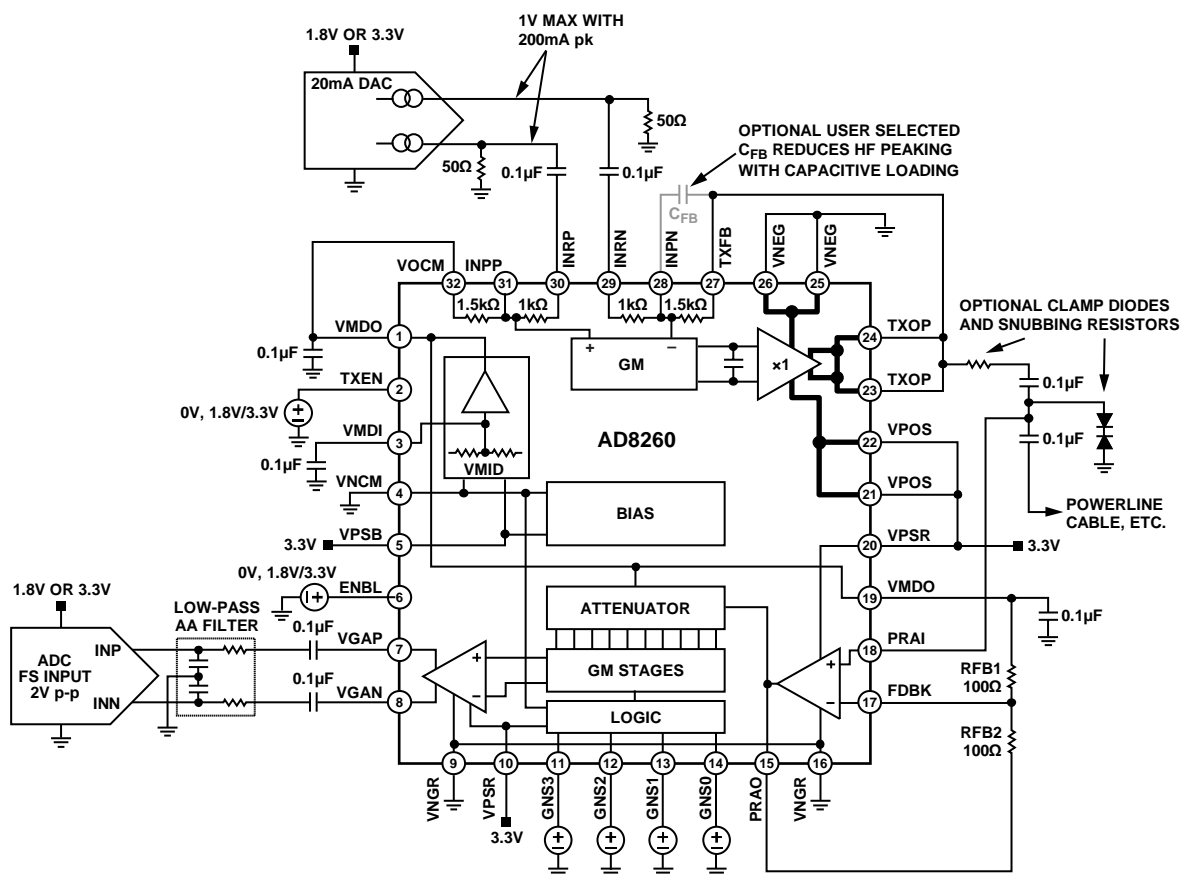

Figure 64. Block Diagram and Basic Application Connections
The AD8260 is a self-contained transceiver intended for analog communications using a power line as the media. Operating on supplies as low as 3.3 V, it includes a high current driver usable as a transmitter and a low noise digitally programmable variable gain amplifier (DGA), usable as a receiver (see Figure 64). An uncommitted current-feedback high frequency op amp acts as a preamplifier and interface to the DGA and is user configured for gains greater than 6 dB. Combined, the VGA and preamplifier are usable at high signal levels from dc to 100 MHz, with a small-signal  $-3$  dB bandwidth of 230 MHz. To implement a high current-output VGA, the VGA output can be connected to the driver-amplifier differential input.
4-bit parallel interface. Figure 64 shows the circuit block diagram and basic application connections, and illustrates the envisioned external DAC, ADC, and power-line bus interface connections. The diagram shows the connections for single 3.3 V supply operation; if a dual supply is available, the VMID generator can be shut down and Pin VMDI, Pin VMDO, and Pin VOVM need to be grounded. Note that Pin VNOCM functions as the negative supply for the bias and VMID cells, plus the logic interfaces, and should always be tied to ground.
For optimal dynamic range, it is important that the inputs and outputs to both the driver amplifier and the preamplifier and the DGA output amplifier be ac-coupled in a single-supply application. In Figure 64, the DAC and ADC are presumed to operate on a 1.8 V or 3.3 V supply with a corresponding limited output and input swing. The DAC outputs are currents that point down and generate a voltage in the  $50\ \Omega$  resistors that are connected to ground. The maximum voltage with a peak DAC output current of 15 mA is 0.75 V; if a DAC with a 20 mA peak current is used, then the maximum voltage is 1 V per side for a differential input signal of 2 V p-p.
The high current driver amplifier can deliver very large output currents suitable for driving complex impedances, such as a power line, a  $50\ \Omega$  line, or a coaxial cable. The input of the amplifier is fully differential and intended to be driven by a differential current-output DAC, as shown in Figure 64. The differential input signal is amplified by  $1.5\times$  and produces a  $2.25\ \text{V p-p}$  single-ended output signal from a  $1.5\ \text{V p-p}$  input signal. A DAC with  $15\ \text{mA}$  maximum output current into a  $50\ \Omega$  load provides  $1.5\ \text{V p-p}$  of input voltage and results in  $2.25\ \text{V p-p}$  at the output. A DAC whose output is  $20\ \text{mA}$  produces an output swing of  $3\ \text{V p-p}$  (neglecting a small gain error when driving the parallel combination of the  $50\ \Omega$  load-resistor and the internal  $1\ \text{k}\Omega$  gain resistor of the AD8260).
During receive, when the high current driver-amplifier is disabled, its gain setting resistors provide a signal path from input to output. To prevent inadvertent DAC signals from being transmitted while receiving via the preamplifier and DGA, the DAC in Figure 64 must have no output signal.
The VMID buffer is a dc bias source that generates the voltage on Pin 1 and Pin 19, VMDO. Node VMDO cannot accommodate large dynamic currents and requires excellent ac decoupling to ground. A high quality 0.1μF capacitor located as close as possible to Pin 1 and Pin 19 (see Figure 64) is normally sufficient to decouple the high values of current from Node VMDO.
Referring to Figure 64, the signal path consists of a 30 dB programmable attenuator followed by a fixed gain amplifier of 18 dB for a total DGA gain range of  $-12 \text{ dB}$  to  $+18 \text{ dB}$ . With the preamplifier configured for a gain of 6 dB, the composite gain range is  $-6 \text{ dB}$  to  $+24 \text{ dB}$  from single-ended preamplifier input to differential DGA output.
- Use the internal VMID buffer as shown in Figure 64.